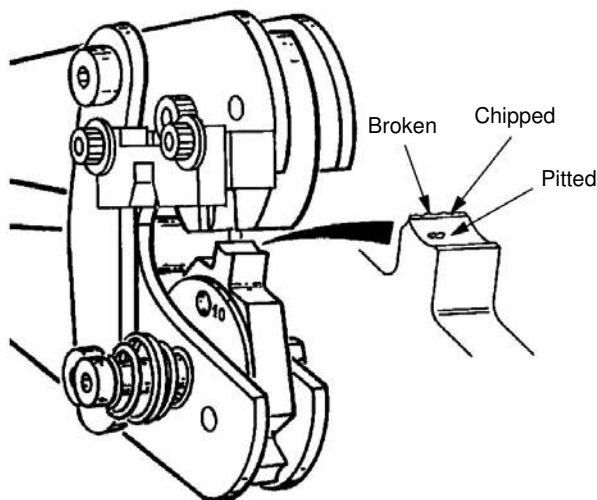

Figure 7
3. Inspect the head assembly, with special emphasis on checking for worn, cracked, or broken dies. If damage to any part of the head assembly is evident, refer to Section 6, for information on obtaining further evaluation and repair. Examples of possible damaged die closure surfaces are shown in Figure 7.